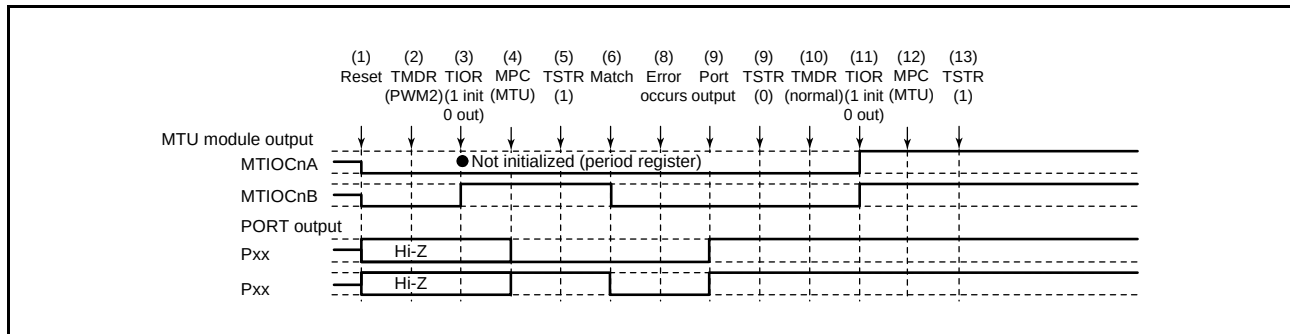

**Figure 19.155 Error Occurrence in PWM Mode 2, Recovery in Normal Mode**
Figure 19.155 shows a case in which an error occurs in PWM mode 2 and operation is restarted in normal mode after re-setting.
(1) to (9) are the same as in Figure 19.155.
(10) Set PWM mode 1.
(11) Initialize the pins with the TIOR register. (In PWM mode 1, waveforms are not output to the MTIOCnB (MTIOCnD) pins. To output a specified level, make necessary settings for general output ports in the port direction registers (PDR) and port output data registers (PODR) of the I/O ports.)
(12) Set MTU output using the MPC and port mode registers (PMR) corresponding to the I/O ports.
(13) Restart operation by setting the TSTR register.
(10) This step is not necessary when restarting in PWM mode 2.
(11) Initialize the pins with the TIOR register. (In PWM mode 2, a waveform is not output to the pin that corresponds to the TGR register used as a period register. To output a specified level, make necessary settings for general output ports in the port direction registers (PDR) and port output data registers (PODR) of the I/O ports.)
(10) Set the phase counting mode.
(11) Initialize the pins with the TIOR register.